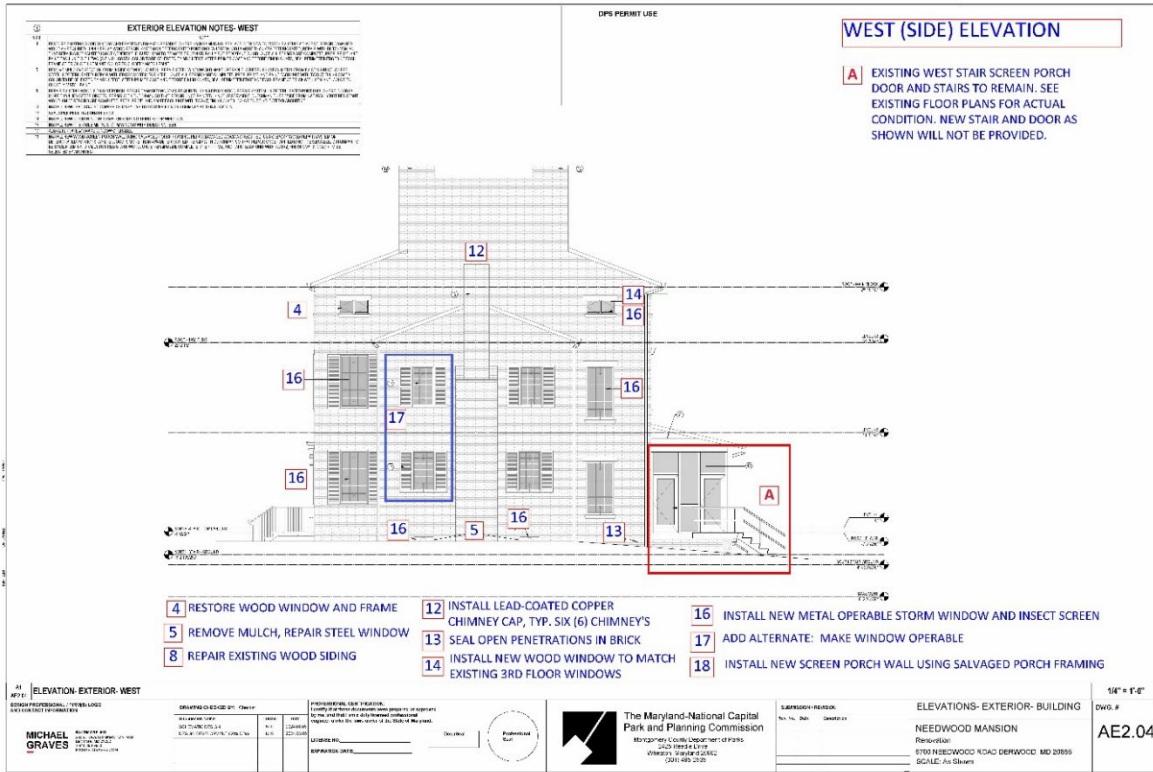

Figure 11: The proposed alterations to the right-side elevation.
Staff supports installation of the wood window on the third floor on the right-side elevation where the window is missing (Work Item 14 on **Figure 11**) and finds the work meets both Chapter 24A-8(b) and the applicable *Standards*. The replacement window will match the design of the existing third floor wood windows, so it will be compatible with the historic site.
Staff supports alterations to the screen porch wall on the ~~west~~ right-side elevation to accommodate the ADA improvements (Work Item 18 on **Figure 11**) and finds the work meets both Chapter 24A-8(b) and the applicable *Standards*. The porch is a later alteration to the building, added in the 20th century, and is located on the rear of the building. The modification is necessary to accommodate the ADA accessibility improvements. According to the applicant, as much of the existing material as possible will be salvaged to be reused in the reconstruction of the wall.
- Partially seal pipe hole in brick (Work Item 13 on *Figure 11*).
- Installation of the wood window on the third floor on the right-side elevation where the window is missing (Work Item 14 on **Figure 11**).
- Alterations to the screen porch wall on the ~~west~~ right-side elevation to accommodate the ADA improvements (Work Item 18 on **Figure 11**).